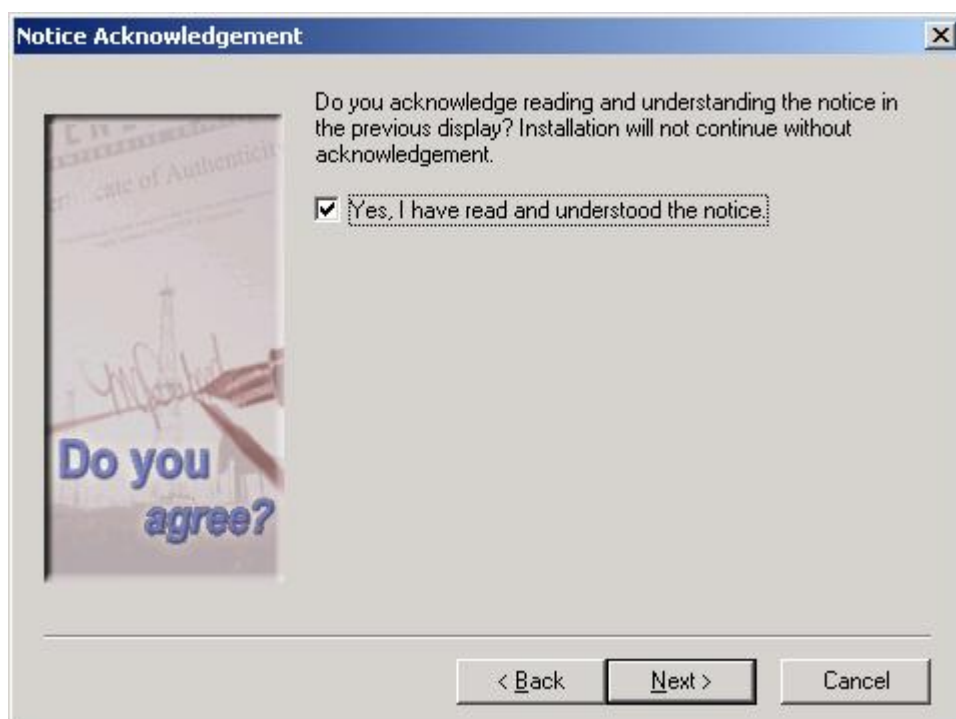

Figure 3.7. Acknowledging the License Utility Version Warning
11. In order to complete the License Utility installation, you must acknowledge that you have read the notice that was displayed in the previous screen. Check the check box and click the **Next** button to continue, as shown in **Figure 3.7**.